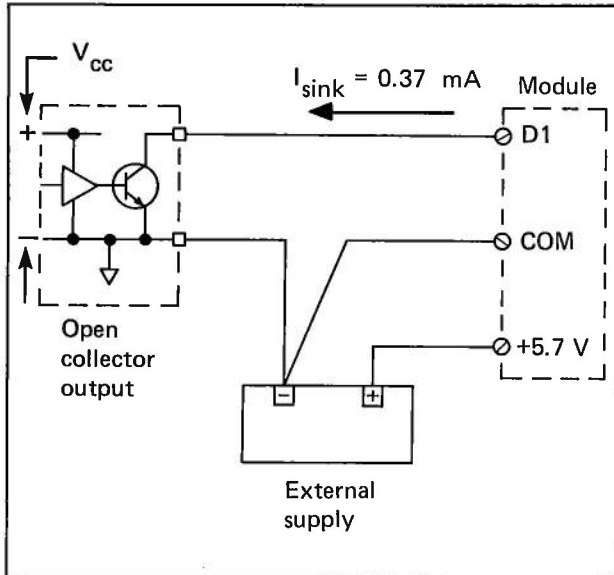
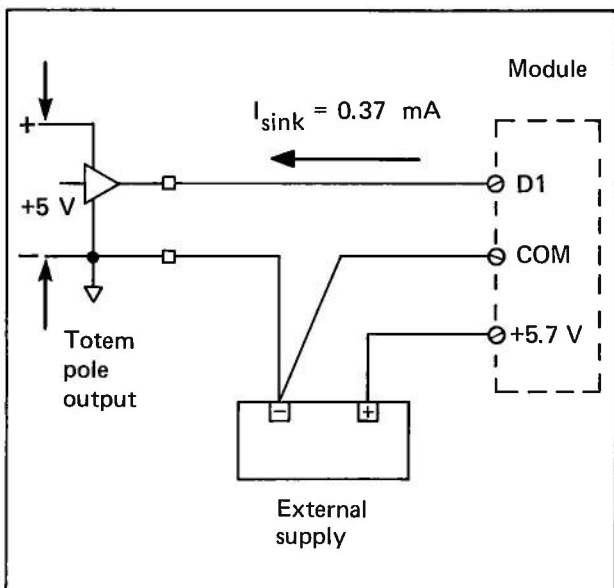
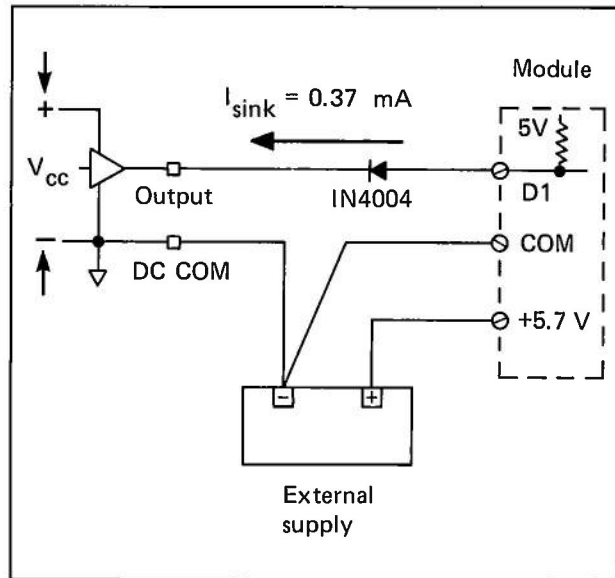

Figure 8 – Open Collector or Open Drain Connections
Figure 9 – LP TTL, LS TTL, Series B CMOS 5 VDC
Figure 10 – Higher than 5 VDC Connections
7. A typical connection diagram for any open collector or open drain output device (rated at 5 VDC) is shown in Figure 8. Typical connections for TTL, LP TTL, Series B CMOS with totem pole or resistor pull-ups operating at 5 VDC are shown in Figure 9. Devices that operate at more than 5 VDC are shown in Figure 10.
Note that in all 3 Figures the DC common side of the device's output must be connected to the DC common side of the external power supply. The logic of the input must correspond to the logic of the device's output. (Use a jumper for low/true logic, if necessary.) In Figure 10, note that the diode prevents high-level input voltages greater than 5.2 VDC from damaging the input circuitry